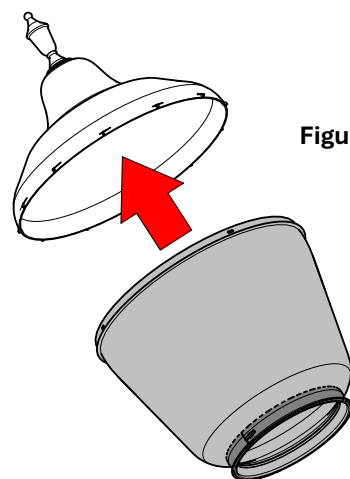

Figure 2
2. Fit the assembled cover over the reflector [Figure 2].